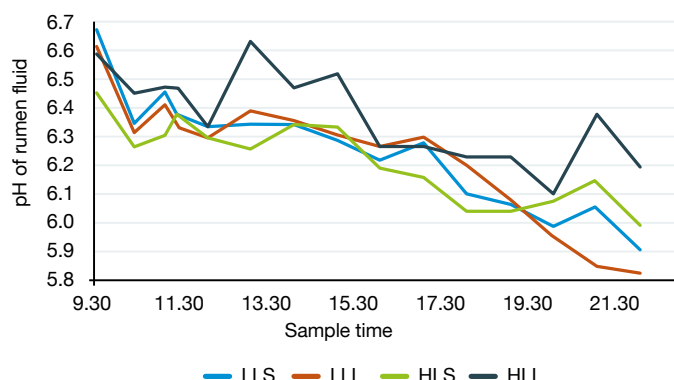

Figure 56. Rumen pH taken during Experiment 2 at various time points
- Rumen pH and ammonia were higher at higher lucerne inclusion levels with HLL having greatest effect on both (Figures 56 and 57)